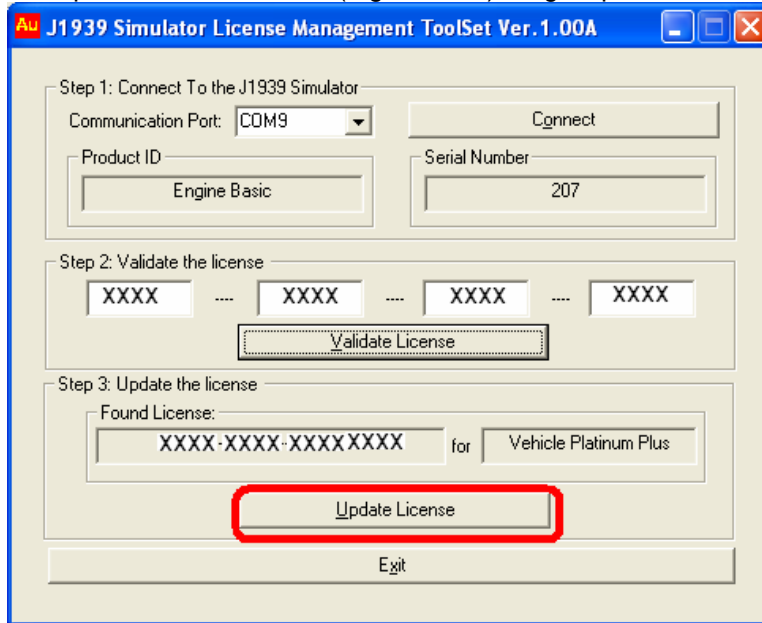

Figure C-13 Engine premium license validate
- After a validate license is entered, Au J1939 Simulator License Toolset will show the license information for the new license code, click "Update License" button (Figure C-13), Engine premium is demonstrated here.